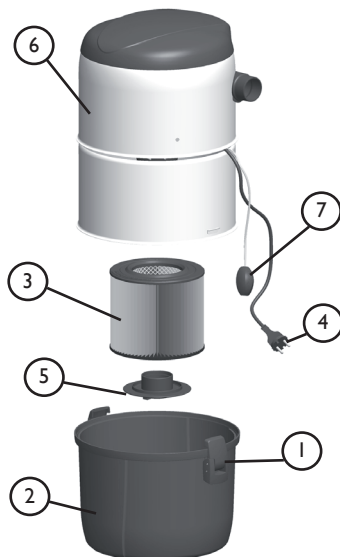

Fig. 1
2.2 Servicing the Filter [Figure 1]
There are no parts for the user to maintain inside the central unit's motor housing (figure 1: 7). We recommend that the need for maintenance and replacement for the electric motor's turbine and other parts inside the motor housing are estimated by an authorised Allaway service dealer after approx. 600 hours of use. This corresponds to approx. 8 years when the device is used an average of an hour and a half per week.
- Check that the low voltage connector [figure 1;7] is connected correctly to its counterpart on the wall bracket of the central unit.
- Check whether the central unit can be started via the low voltage connector [figure 1;7] of the central unit by closing the start circuit with a piece of metal wire.